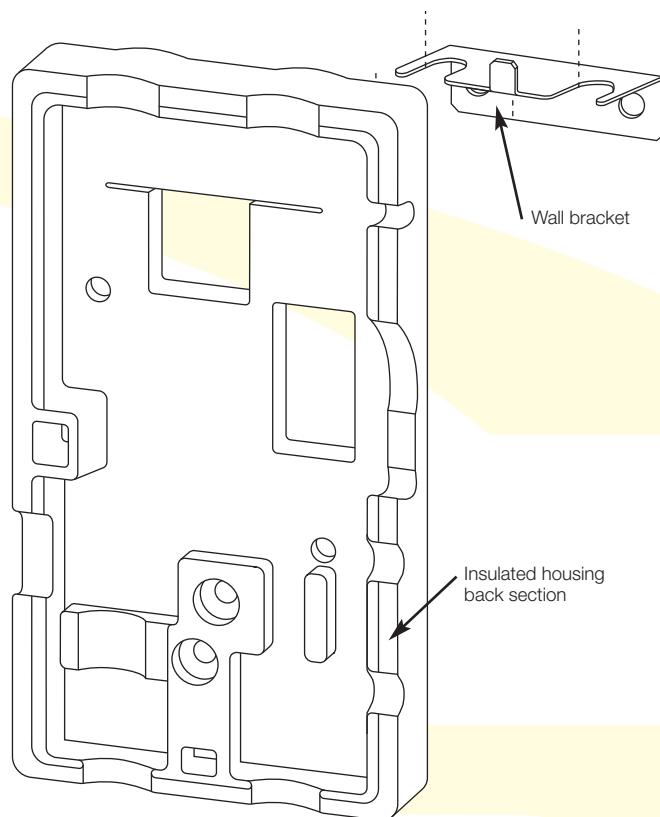

Figure 3-1: Fit back section of housing onto wall bracket
6. Fit the back section of the insulated housing onto the wall bracket, taking care to insert it completely. Refer to Figure 3-1.